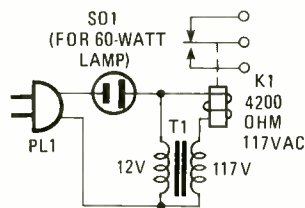

Fig. 1. When a bulb in a lamp plugged into S01 blows out, the relay activates an alarm. The big question is "How does it work?"
*Tank* of the November 1991 issue of **Popular Electronics**. The information came at just the right time; I needed to make an alarm system turn on when a lamp with a 60-watt light bulb failed. I changed the connection as shown in Fig. 1. As you can see, the transformer has the 12-volt side wired as the primary. All parts came from Radio Shack and it works very well. The problem is that I don't know why it works. I was hoping you could explain.